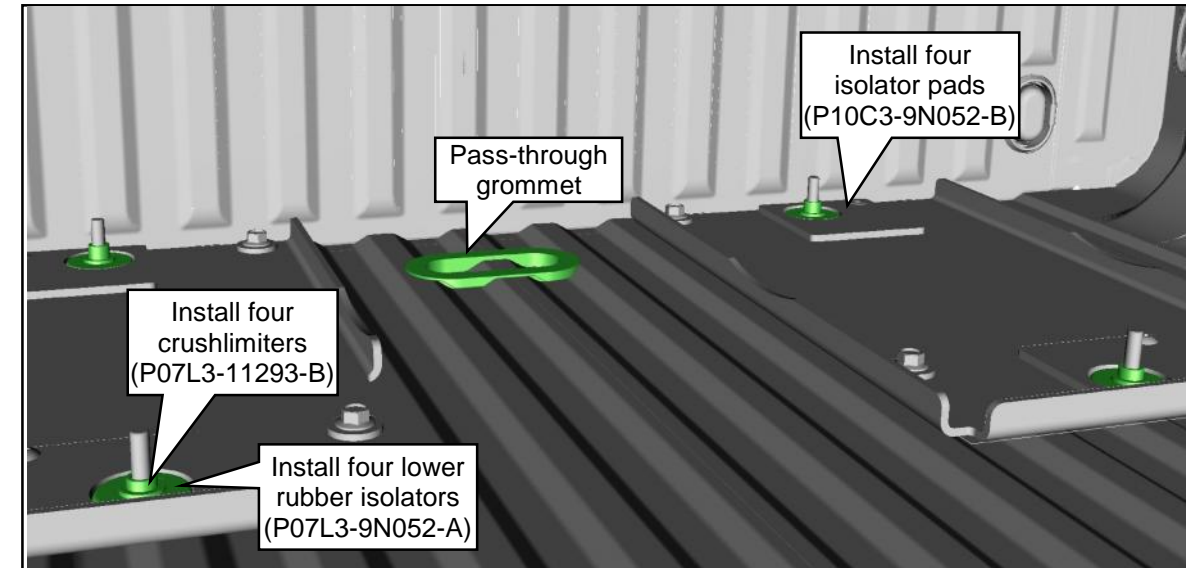

Figure 19.1
1. Install four rubber isolators, four isolator pads and four crushlimiters onto the four tank mounting bracket studs. **Figures 19.1.**